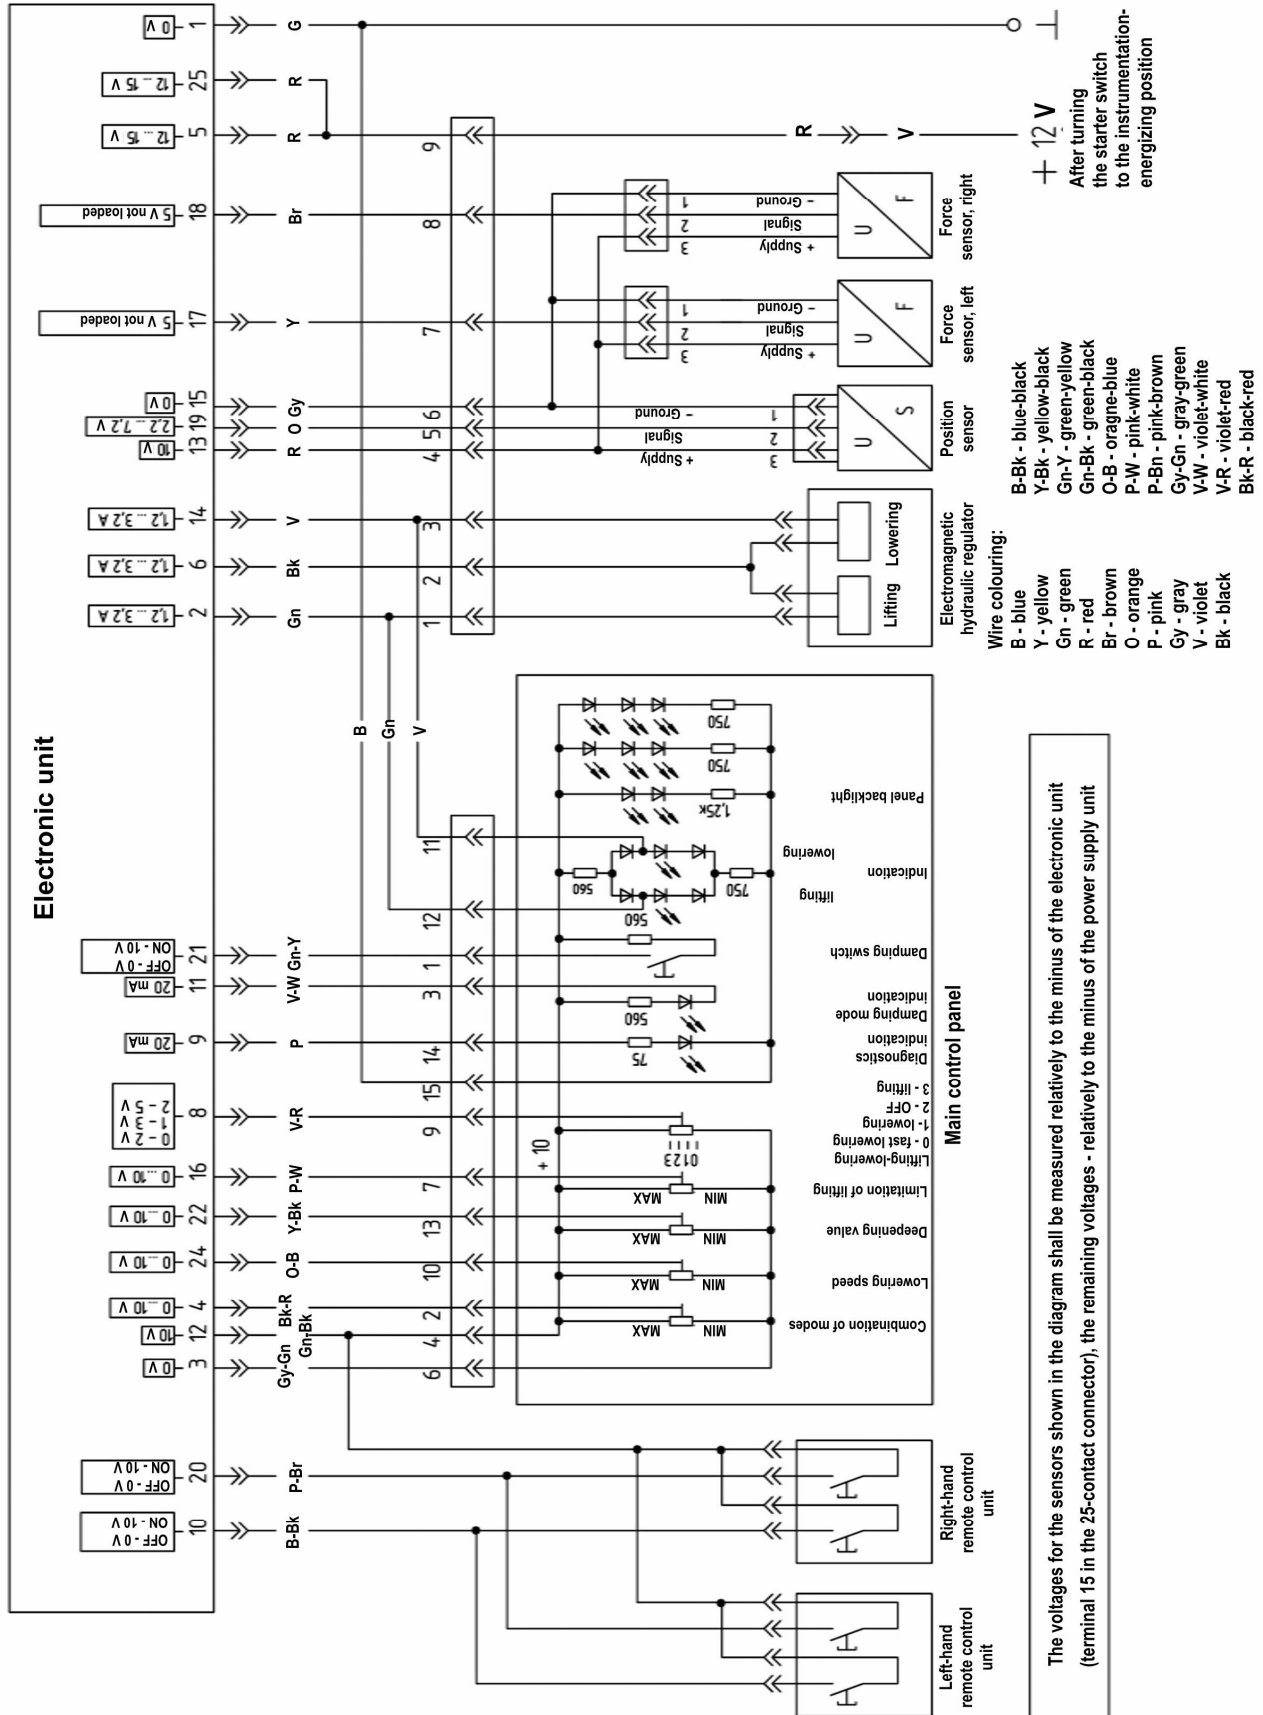

Fig.E-37. Electric connection diagram of the RHL control system
The connection diagram of the RHL control system is shown in Fig. E-37.
| 11                     | Fault in the circuit of control the solenoid valve for lifting. Open circuit in the winding of the electromagnet (10) or in the electromagnet control bundle (Fig. E-37).               | Disconnect the bundle from the electromagnet and check the electromagnet for open circuit by means of a tester. The electromagnet resistance shall not exceed 2...4 $\Omega$ . If the electromagnet is free of fault, check the electromagnet control bundles for mechanical damage and check the wire from the electromagnet connector terminal to the terminal (2) of the 25-contact connector of the electronic unit for breakage by means of a tester.   |
| 12                     | Fault in the circuit of control the solenoid valve for lowering. Open circuit in the winding of the electromagnet (9) or in the electromagnet control bundle (Fig. E-37)                | Disconnect the bundle from the electromagnet and check the electromagnet for open circuit by means of a tester. The electromagnet resistance shall not exceed 2...4 $\Omega$ . If the electromagnet is free of fault, check the electromagnet control bundles for mechanical damage and check the wire from the electromagnet connector terminal to the terminal (14) of the 25-contact connector of the electronic unit for breakage by means of a tester.  |
| 13                     | Fault in the circuit of control the solenoid valve for lowering or lifting. Short circuit in one of electromagnets or between the electromagnet control wires in the bundle (Fig. E-37) | Disconnect the bundles from the electromagnets and check the electromagnets for short circuit by means of a tester. The electromagnet resistance shall not exceed 2...4 $\Omega$ . Alternatively, measure the electromagnet consumption current when applying the voltage of 6 V to the electromagnet. The current shall not exceed 3.2 A. Disconnect the connector from the electronic unit and check the terminals (2) and (14) for short circuit (when doing this, the electromagnets shall be disconnected).   |
| 14                     | Fault in the control circuit of the solenoid valves for lowering and lifting. Wire breakage in the electromagnet control bundle (Fig. E-37).  | Check the system bundles for mechanic damages. Disconnect the connectors from the electronic unit and electromagnets and check the wire from the terminal (6) of the electronic unit connector to the terminals of connectors of the electromagnets. Check the presence of the supply voltage on the terminal (5) of the electronic unit connector (when doing this, the engine shall be running). If the voltage is absent, check the reliability of connection in the single-terminal block with violet wire on the right under the dashboard and fuse. The fuse is located in the medium fuse block on the dashboard. The voltage is applied to the fuse after turning the switch of the starter and instrumentation to the "instrumentation energized" position. |
|                       | buttons. Short circuit between the wires or locking of one of the remote control buttons. In this case, the hitch linkage begins move up- or downwards immediately after starting the engine (Fig. E-37)  | for mechanical damage. Disconnect each button in turn until the defect is eliminated. When disconnecting the buttons, the engine shall be stopped. If the defect does not disappear when the buttons are disconnected, it is necessary to disconnect the connector from the electronic unit and check the terminals (10) and (12), (20) and (12) for short circuit by means of a tester.  |
| 16                    | Electronic unit fault. Stabilized supply voltage of the control panel is below the required level. Possibly, short circuit in the connectors of the sensors of force and RHL position due to penetration of water into the connectors (Fig. E-37) | Disconnect the main control panel from the common bundle. Measure the stabilized power supply voltage on the contacts (6) (minus) and 4 (plus) of the control panel connector, which shall be 9.5-10 V (after turning the switch of starter and instrumentation to the "instrumentation energized" position). In case of missing or insufficient supply voltage, it is necessary to check the reliability of connection of the electronic unit connector. Disconnect in turn the sensors of force and RHL position.   |
| 22                    | Fault of the position sensor. Breakage of the sensor wire or the sensor is not connected or not adjusted (Fig. E-37)  | Check: <ul style="list-style-type: none"> <li>• the reliability of connection of the electric connector to the position sensor (3) (Fig. E-35c);</li> <li>• the bundle connected to the sensor for mechanical damage;</li> <li>• the correctness of setting the RHL eccentric, i.e. in case of maximum lowering of the RHL, the sensor shall be pressed to the minimum extent and vice versa;</li> <li>• the correctness of adjustment of the position sensor (if the defect becomes apparent when the RHL is in the bottom position, the sensor shall be screwed in and it becomes apparent when the RHL is in the top position, the sensor shall be screwed out). The adjustment shall be performed when the RHL is in the top position.</li> </ul> |
| 23                    | Control panel fault. The potentiometer (4) of the soil treatment depth (Fig. E-37) is faulty.   | Check the reliability of connection of the connectors of the control panel and electronic unit as well as check the bundle for mechanical damage. Check the output voltage according to the electric diagram.   |
| 24                    | Control panel fault. The potentiometer (3) of the top RHL position (Fig. E-37) is faulty.   | Check the reliability of connection of the connectors of the control panel and electronic unit as well as check the bundle for mechanical damage. Check the output voltage according to the electric diagram.   |
| 28                   | Control panel fault. The RHL control lever (7) (Fig. E-37) faulty.  | Check the reliability of connection of the connectors of the control panel and electronic unit as well as check the bundle for mechanical damage. Check the output voltage according to the electric diagram.    |
| 31                   | The right-hand force sensor is faulty. Cable breakage or short circuit in the sensor (Fig. E-37)                    | Check the connection of the cable to the force sensor and check the cable for mechanical damage. Overload of the force sensor is also possible.  |
| 32                   | The left-hand force sensor is faulty. Cable breakage or short circuit in the sensor (Fig. E-37)                     | Check the connection of the cable to the force sensor and check the cable for mechanical damage. Overload of the force sensor is also possible.  |
| 34                   | Control panel fault. The RHL control rate potentiometer is faulty (Fig. E-37)                                       | Check the reliability of connection of the connectors of the control panel and electronic unit as well as check the bundle for mechanical damage.Check the output voltage according to the electric diagram. |
| 36                   | Control panel fault. The potentiometer of combination of the ploughing modes (draft-position) is faulty (Fig. E-37) | Check the reliability of connection of the connectors of the control panel and electronic unit as well as check the bundle for mechanical damage.Check the output voltage according to the electric diagram. |